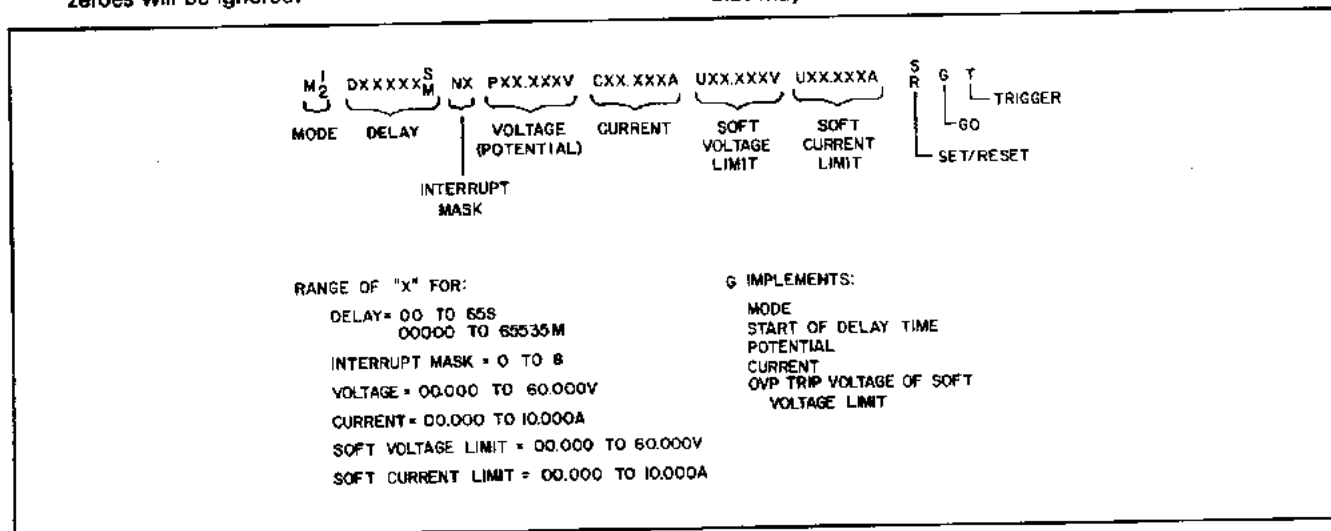

Figure 3-13. Programming Syntax
3-104 Figure 3-13 shows a full programming string for the 6034A power supply. Paragraphs 3-106 through 3-131 describe each of the commands in the programming string. The letters used to program each of the commands are printed in **boldface type** in the following paragraphs. When referring to Figure 3-13, it should be remembered that:
6. Numbers that are not within the ranges listed in Figure 3-13 will invalidate the command.